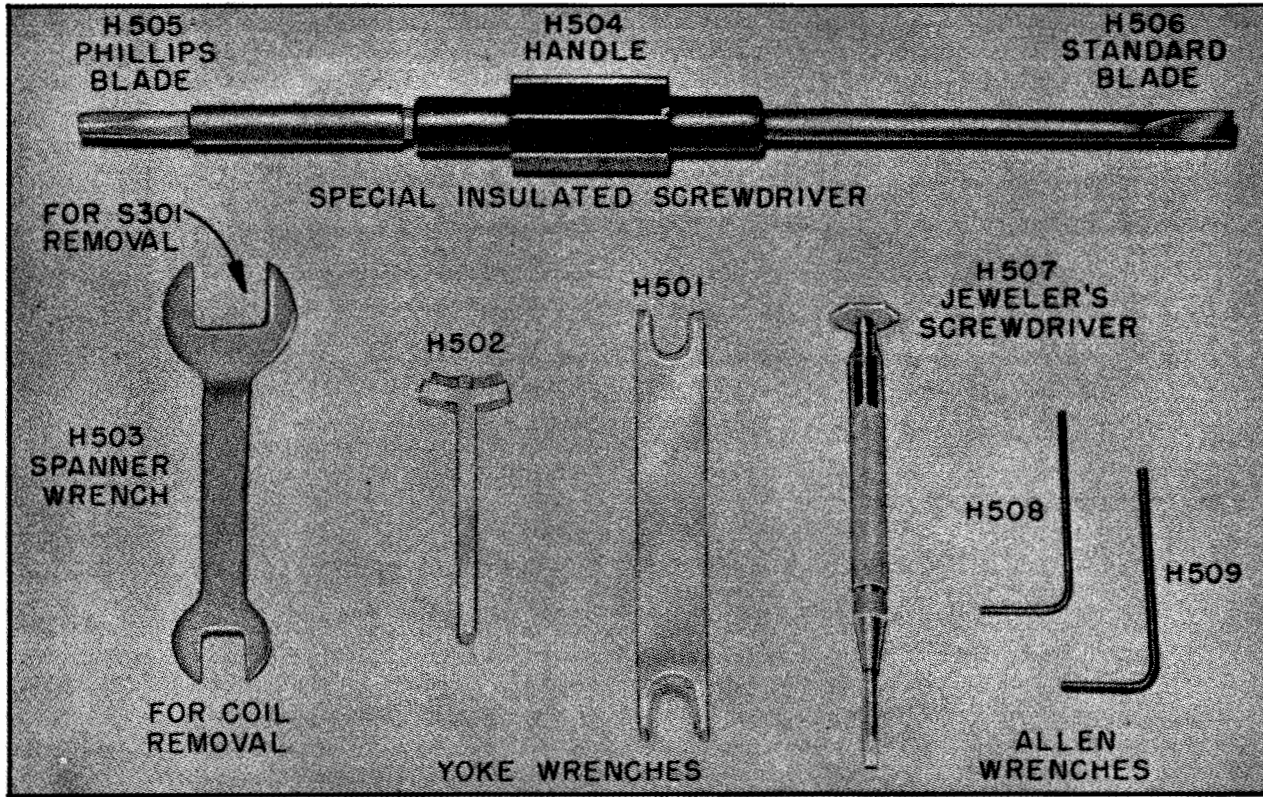

Figure 7-5.—Special Tools.
crystal lock bar, remove coil L102 and/or coil L103 (figure 7-6A) by loosening the hex bolts at either end of the coil, using the small end of spanner wrench H503 supplied in the tool kit (see figure 7-5).
(2) Remove yoke L105 (if necessary) by loosening the two small screws securing the two halves of the yoke, as shown in figure 7-6B. Use jewelers' screwdriver H507 supplied in the tool kit (see figure 7-5).
(1) Set up the equipment for bench-test operation as described in paragraph 2 above. Use the Discone Antenna or, if transmitter radiation is not permissible, substitute a 50-ohm dummy load.
(2) Turn the CHANNEL SELECTOR one notch clockwise from its normal position for the channel in use so that the coils in use will be accessible at the left side of the unit. Now loosen the knurled locknut on L104 (figure 7-7F) and preset the yoke on L104 (figure 7-7H) in accordance with the tripler-yoke tuning chart (figure 7-8A). Either of the two transparent plastic wrenches (H501 or H502, Figure 7-5) in the tool kit may be used for yoke adjustment.
(5) Tune C101 (figure 7-7C) from its minimum-capacity position (see Note following) with special insulated screwdriver H506 in the tool kit (figure 7-5) for a dip of half a unit in the meter reading.